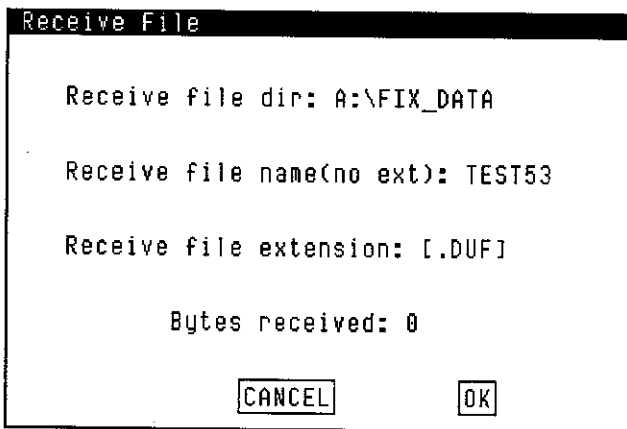

Figure 8-10. Receive File Window
3. Click on <Receive>. The Receive File window, Figure 8-10, is displayed. Input the directory, file name and the extension for the incoming file. The selections for the extensions are shown in Table 8-3.